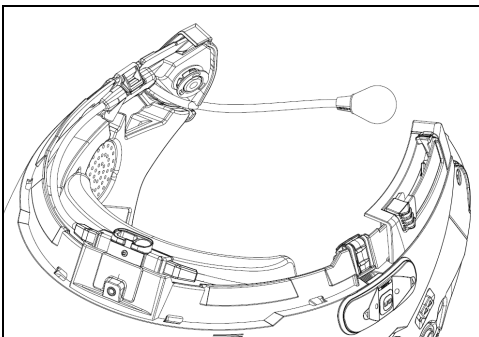

Fig. 6
- Position the microphone in the housing on the left of the helmet, inserting the metal boom in the groove found in the chin guard coupling frame (Fig. 6).